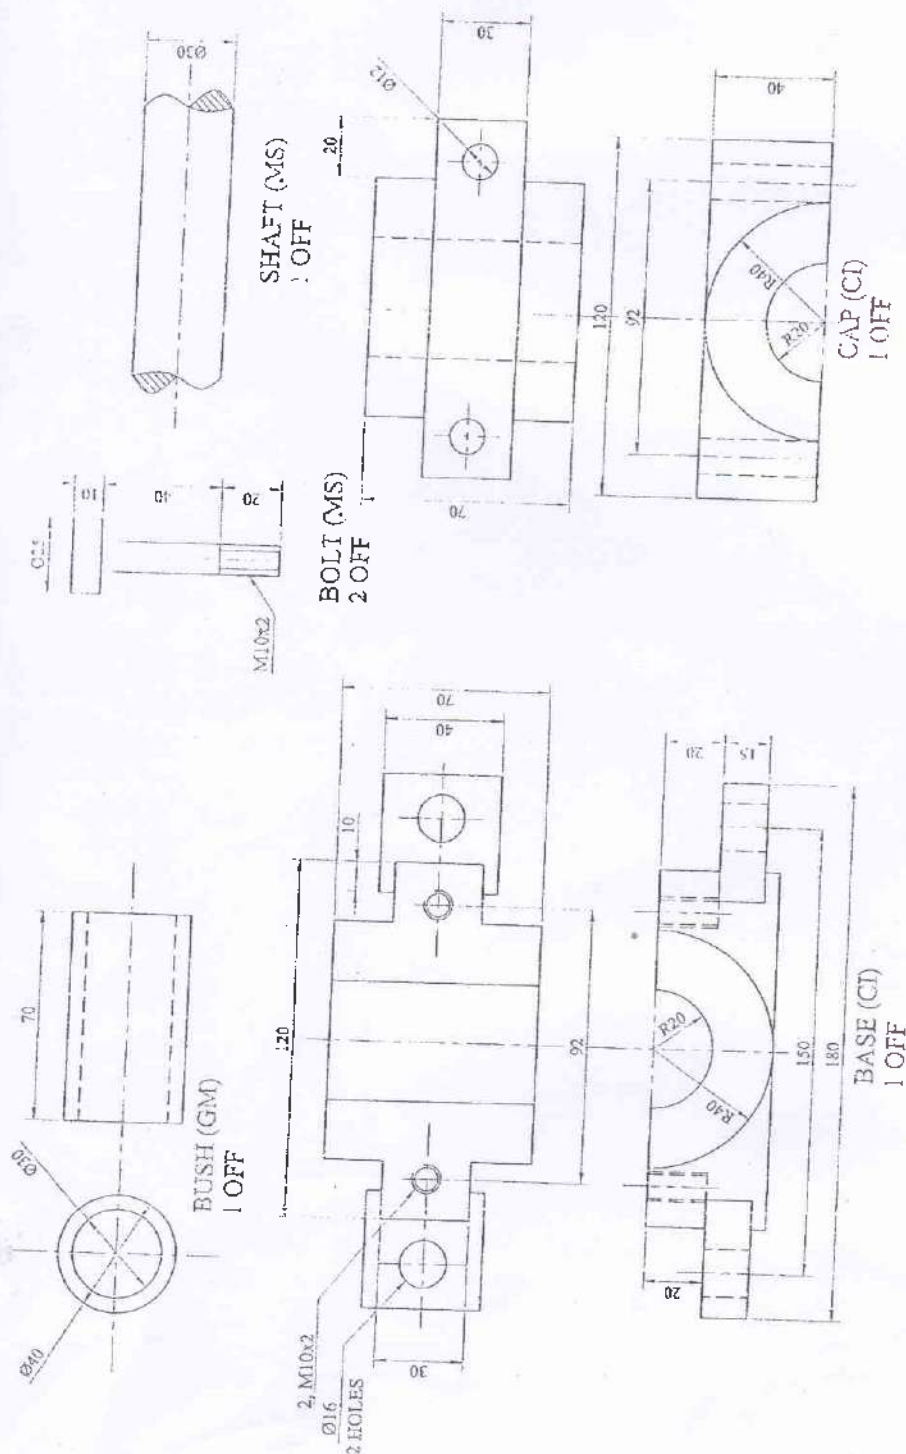

Figure 5
5. Draw the assembled sectional front view from the detail drawing in figure 5 (attach with Question)